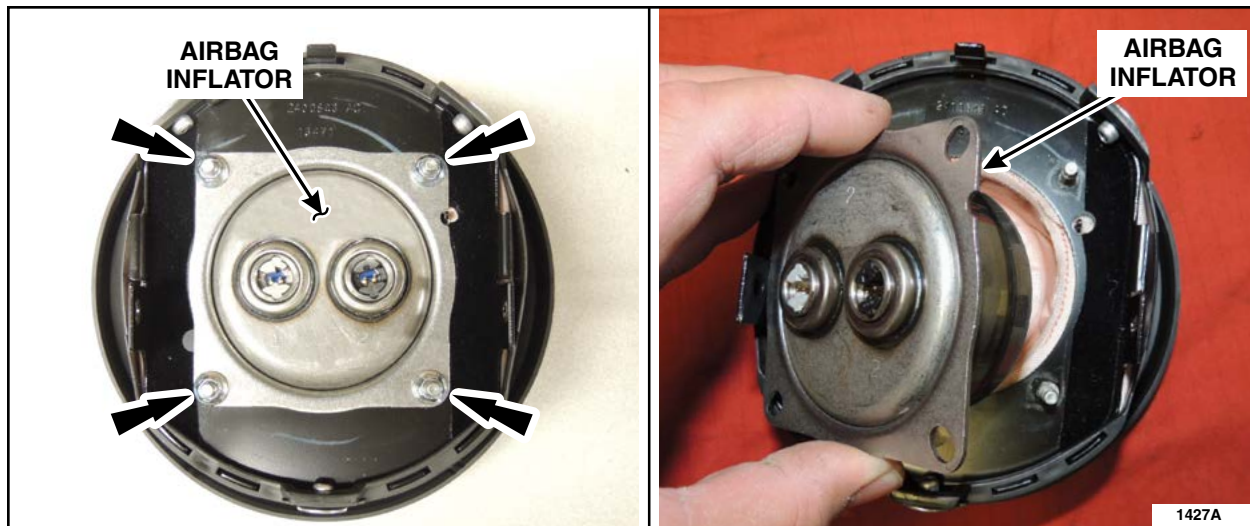

FIGURE 2
1. Remove and discard the four airbag inflator retaining nuts from the driver side airbag. See Figure 2.
Remove the airbag inflator and set aside for return shipping. See Figure 2.